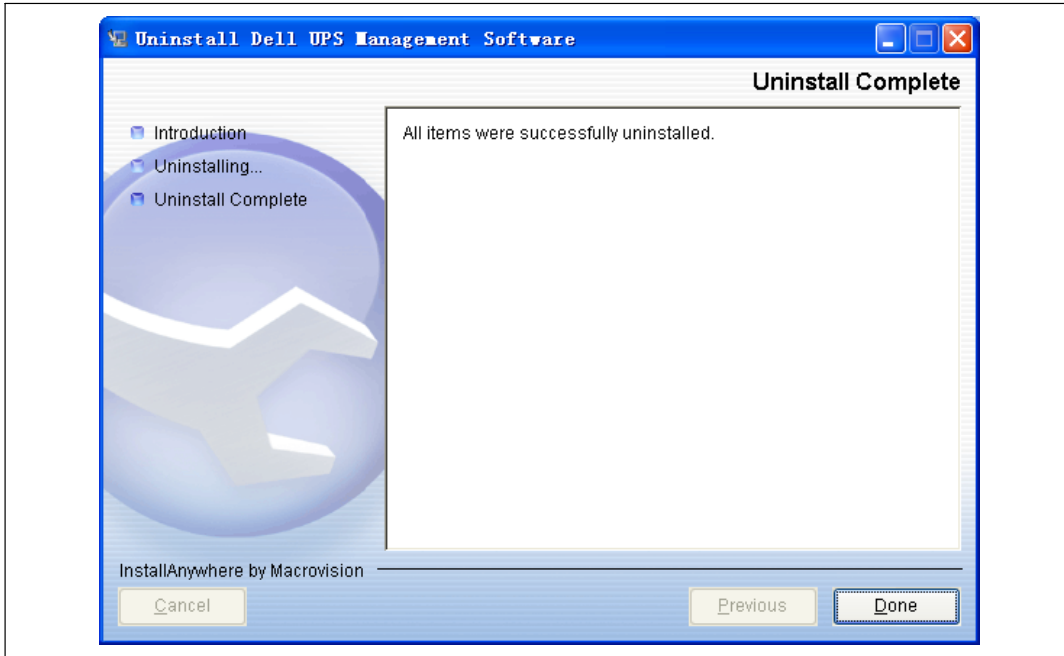

Figure 27. Uninstall Complete Window
- 6 After the Dell UPS Management Software uninstalls completely, click **Done** (see Figure 27).